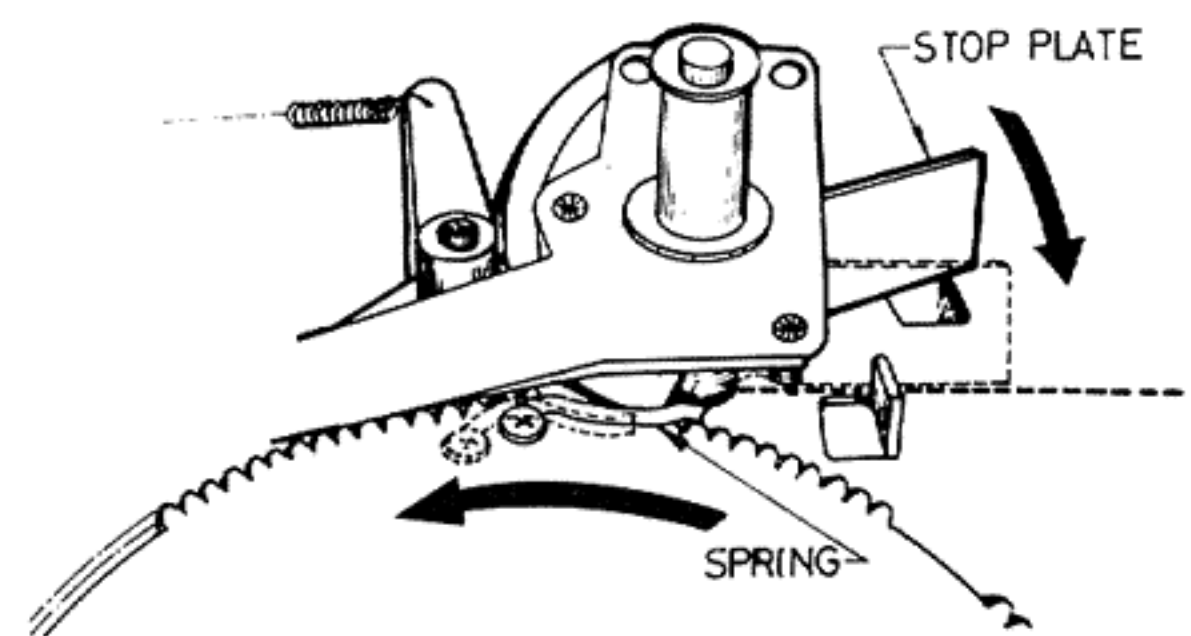

Fig. 11
4) The stop plate must be in the position shown by the dotted line when the next disc is to be played. To locate it in place, pull the "START" lever, and the gearing will begin to rotate. The stop plate will be moved to the correct position by means of a spring on the gearing. It is ready for the next auto-up function. (Fig. 11)